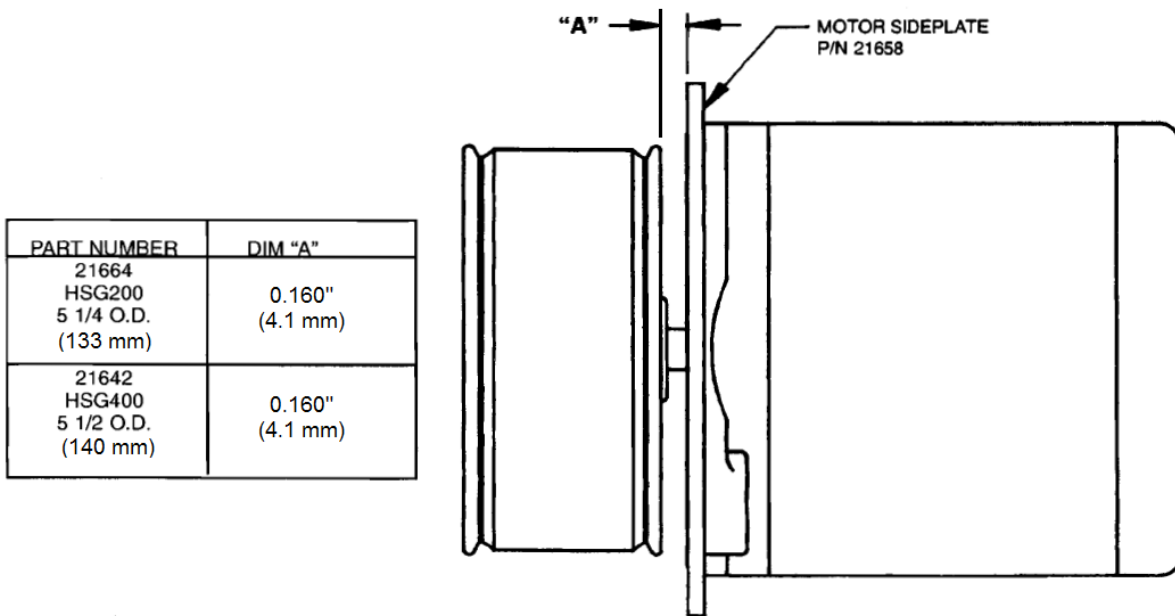

Figure 24: MOTOR/BLOWER ASSEMBLY
3. Should removal of the blower wheel be necessary for cleaning or replacement of it or the motor, the blower wheel must be positioned correctly on the motor shaft (Figure 24).